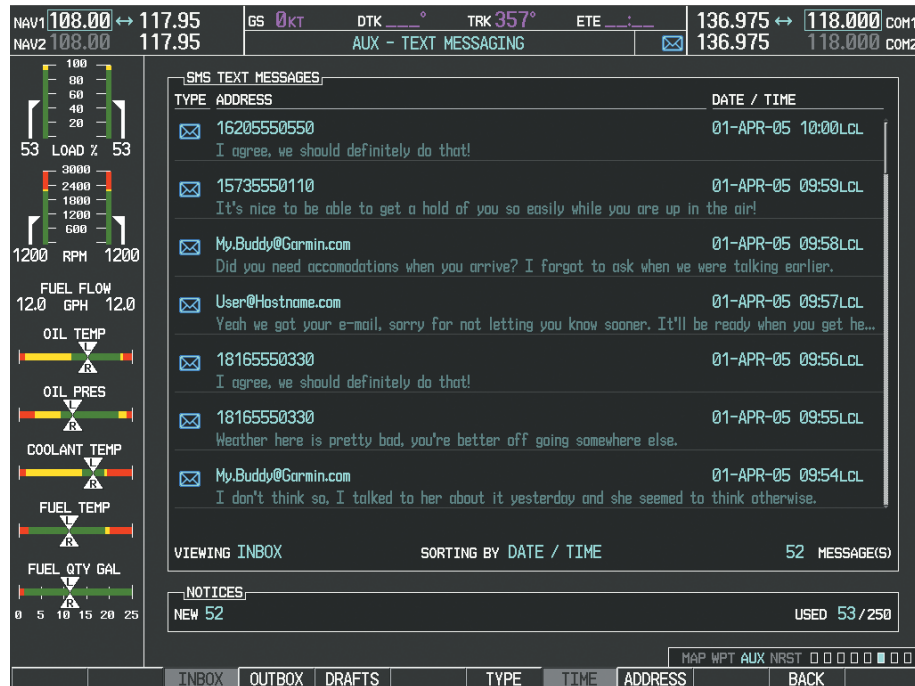

Figure 8-97 Text Message Inbox
While viewing the AUX-TEXT MESSAGING Page, press the **ARRANGE** Softkey, then press the **INBOX** Softkey (Figure 8-97).
While viewing the AUX-TEXT MESSAGING Page, press the **ARRANGE** Softkey, then press the **TIME** Softkey (Figure 8-97).
- 3) Press the **ENT** Key. The sorting selection is indicated at the bottom center of the list window (Figure 8-97).